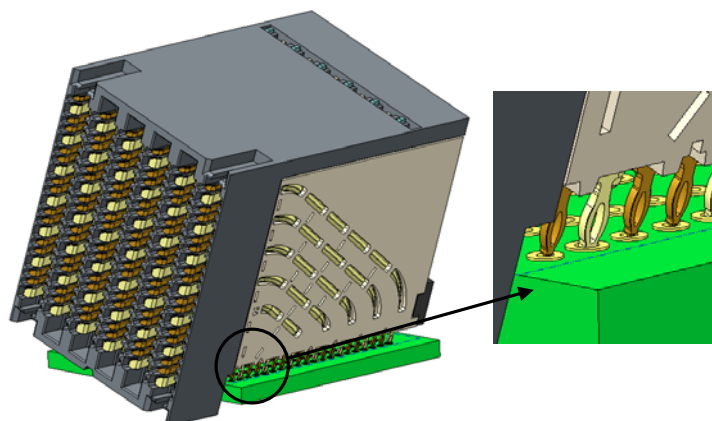

Figure 32: Right Column EONs Being Aligned With PCB Vias
- Begin by holding the connector at a slight angle so that the tips of the outside column press fit tails, left or right, can be inserted into either the first or last column of via holes on the PCB. See figure 32.